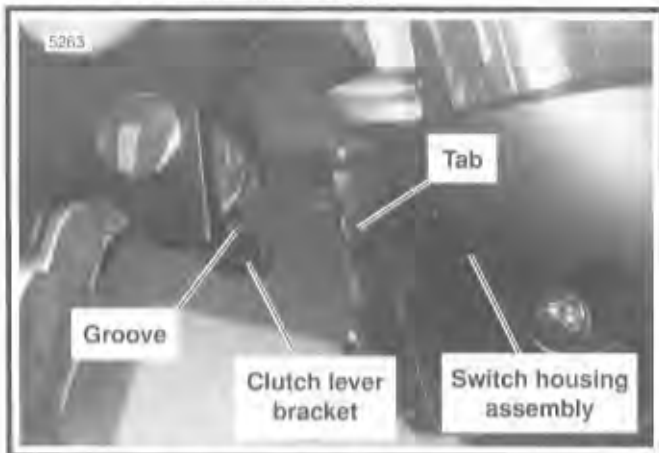
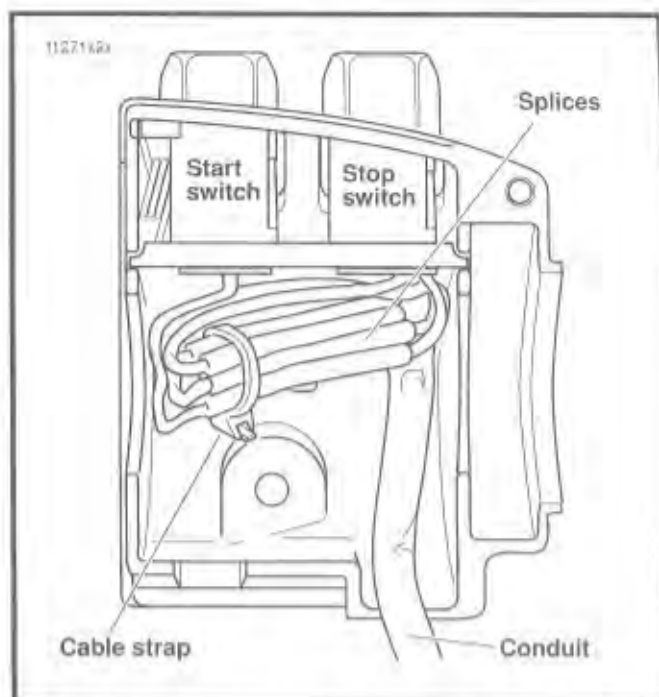

Figure 7-76. Fit Clutch Lever Bracket to Left Handlebar Switch Housings
Figure 7-78. Upper Right Handlebar Switch Housing (With Splices)
5. See Figure 7-76. Position the clutch hand lever assembly inboard of the switch housing assembly, engaging the tab on the lower switch housing in the groove at the bottom of the clutch lever bracket.
See Figure 7-76. Do not remove the switch housing assembly without first placing a 5/32 inch cardboard insert between the brake lever and lever bracket. Removing the assembly without the insert in place may result in damage to the rubber boot and plunger of the front stop-light switch.
6. Loop switch wires so that spliced lengths are positioned as shown in Figure 7-78. Route wires downstream of splices beneath wing on engine stop switch side of bracket as seen in Figure 7-76.